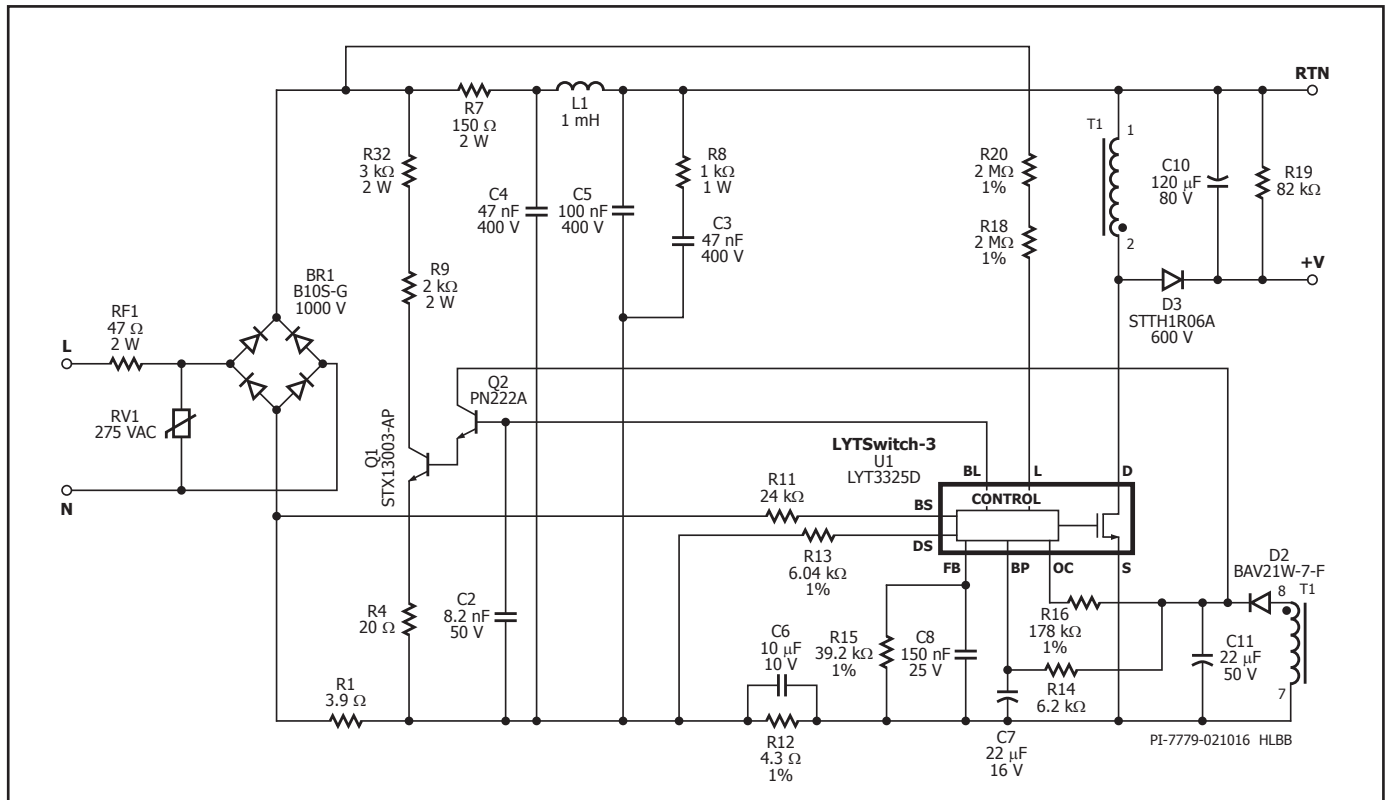

Figure 7. DER-524 8 W, 72 V, 115 mA Non-Isolated Dimmable A19 LED Bulb Driver using LYT3325D.
The circuit shown in Figure 7 is configured as a buck-boost power supply utilizing the LYT3325D from the LYTSwitch-3 family of ICs. This type of LED driver configuration is common for dimmable bulb applications where high dimmer compatibility, accurate regulation, high efficiency, high power factor and low ATHD are required along with low component count for high reliability. The output can drive an LED load from 68 V to 76 V with a constant output current of 115 mA \pm 3% across an input range of 195 VAC to 264 VAC and can operate in maximum ambient temperature of 100 °C with good margin below the thermal foldback protection point. It has an efficiency of greater than 86%, very low ATHD% (less than 20%) and high power factor of greater than 0.9 measured across the input range.
AC input power is rectified by bridge BR1. A 1000 V voltage rating is recommended (the maximum clamp voltage for a typical 275 V varistor is 720 V). The rectified DC is filtered by the input capacitors C4 and C5. Too much capacitance degrades power factor and ATHD, so the values of the input capacitors were adjusted to the minimum values necessary to meet EMI with a suitable margin. Inductor L1, C4 and C5 form a π (pi) filter, which attenuates conducted differential and common mode EMI currents. Optional resistor R10 across L1 damps the Q of the filter inductor to improve filtering without reducing low frequency attenuation. Fuse RF1 in Figure 7 provides protection against catastrophic failures such as short-circuit at the input. For cost reduction, this can be replaced by a fusible resistor (typically a flame proof wire-wound type) which would need to be rated to withstand the instantaneous dissipation induced when charging the input capacitance when first connected to the input line.
Selection of fuse RF1 in Figure 7 type and rating is dependent on input surge requirements. Typical minimum requirement for bulb application is 500 V differential surges. This design meets a 1 kV surge specification, so a 47 Ω fusible resistor in Figure 7 was used. A fast-blow fuse with high ampere energy (I^2T) rating could also be used.
The bias winding voltage is proportional to the output voltage (controlled by the turns-ratio between the bias supply and output-main winding). This allows the output voltage to be monitored without the need for output-side feedback components. Resistor R16 in Figure 7 converts the bias voltage into a current which is fed into the OUTPUT COMPENSATION (OC) pin of U1. The OUTPUT COMPENSATION pin current is also used to detect output overvoltage which is set to 30% above the nominal output voltage. Once the current exceeds the I_{OV} threshold the IC will trigger a latch, which disables switching which prevents the output from rising further. An AC recycle is needed to reset this protection mode once triggered.